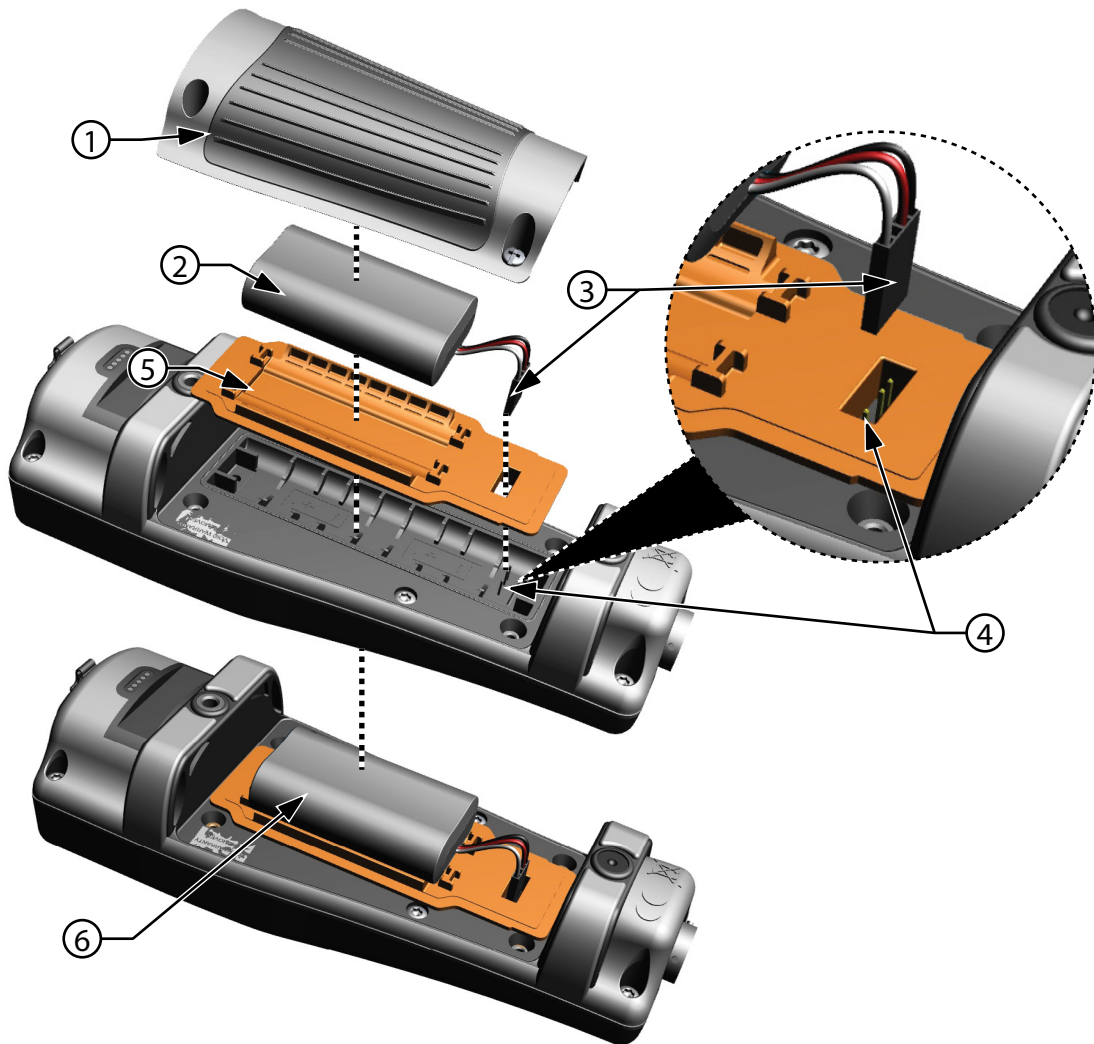

Figure 2 Battery replacement
1. Remove the battery pack cover by unscrewing (counter-clockwise) the four screws with a flat or Phillips head screwdriver (Figure 2 on page 7).